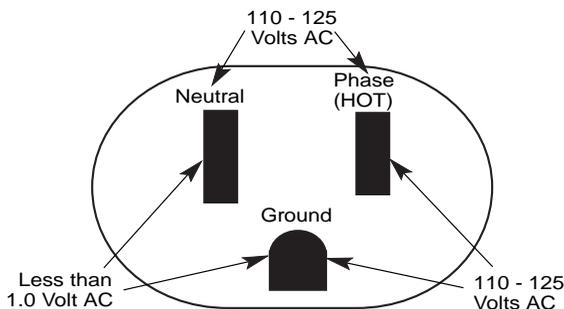

Figure 2-2. Measuring the AC Outlet Voltages
- ▶ **2. Measure the AC outlet voltages. Figure 2-2 on page 2-10.**